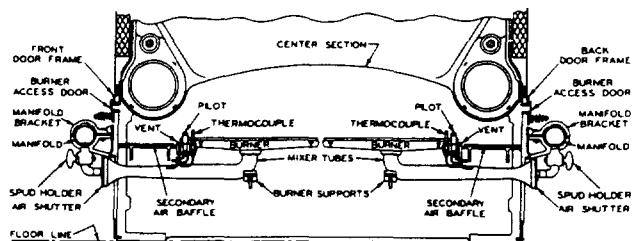

Fig. 7—Burner Installation—Pilot Burner, Thermocouple and Vent Tube
1. Assemble sub-assemblies of manifold, manifold piping, automatic gas valve and gas pressure regulator or automatic pilot valve and attach to boiler. See that orifice spuds in ends of spud holders are screwed in tight and that orifices are drilled to size specified on tag attached to manifold. (See Figs. 7, 8, 9, 10 and 11.)
2. See that air shutter is assembled on each mixer tube, then place mixer tubes firmly on spud holders and burner support. Assemble main burners on tapered ends of mixer tubes so they are straight and level. (See Figs. 7, 8, 12, 13, 14 and 15 for proper burner locations).
3. Place front and back secondary air baffles on lugs on end and intermediate sections. The baffle flanges should be away from burners and turned downward. See Figs. 7 and 8.